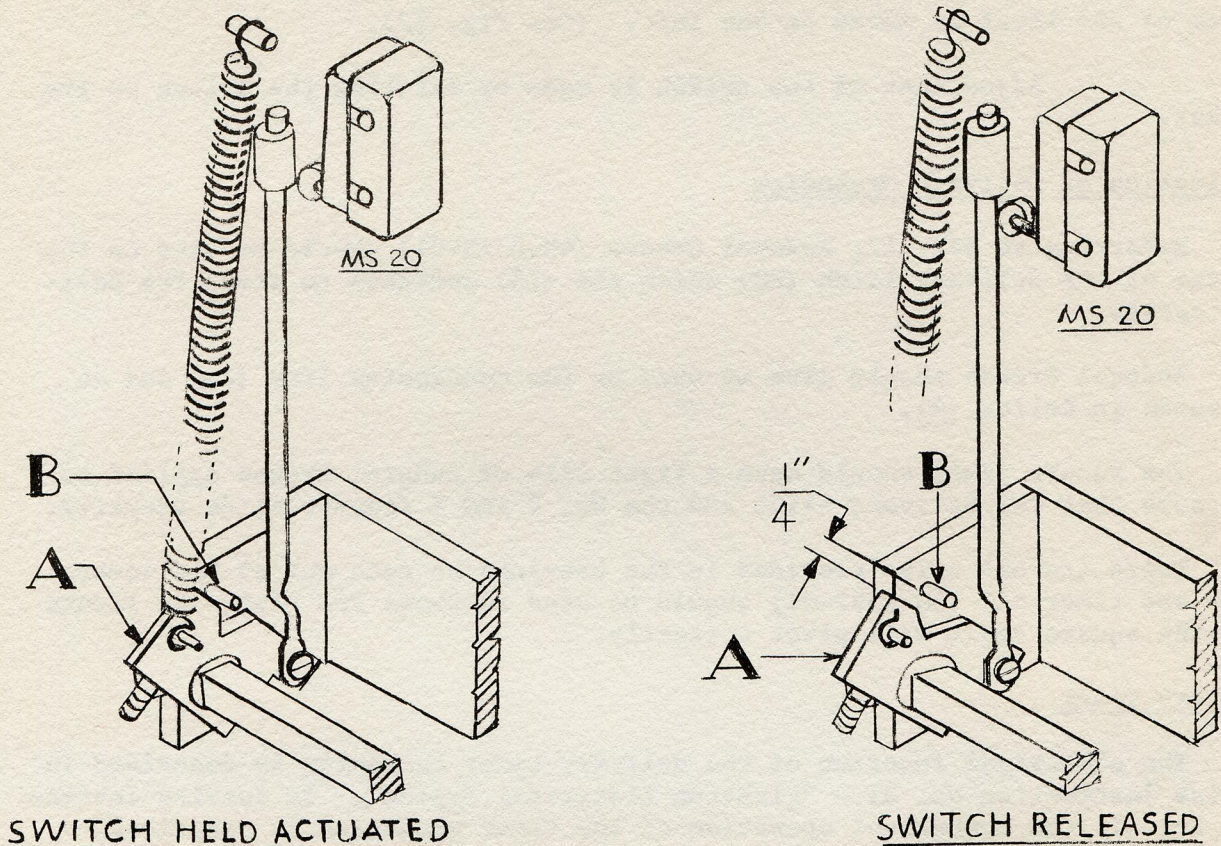

FIG.28
5. MS 20- Automatic Assembler Finger Brake Release Switch (Fig. 28)
Adjustment is made by shifting the collar (1) on rod (2). The collar is held to the rod by a small set screw. Fig. 28 shows the position of the collar when MS 20 is held actuated and also the position of the collar when the square shaft has pivoted downward and the switch has just been released.